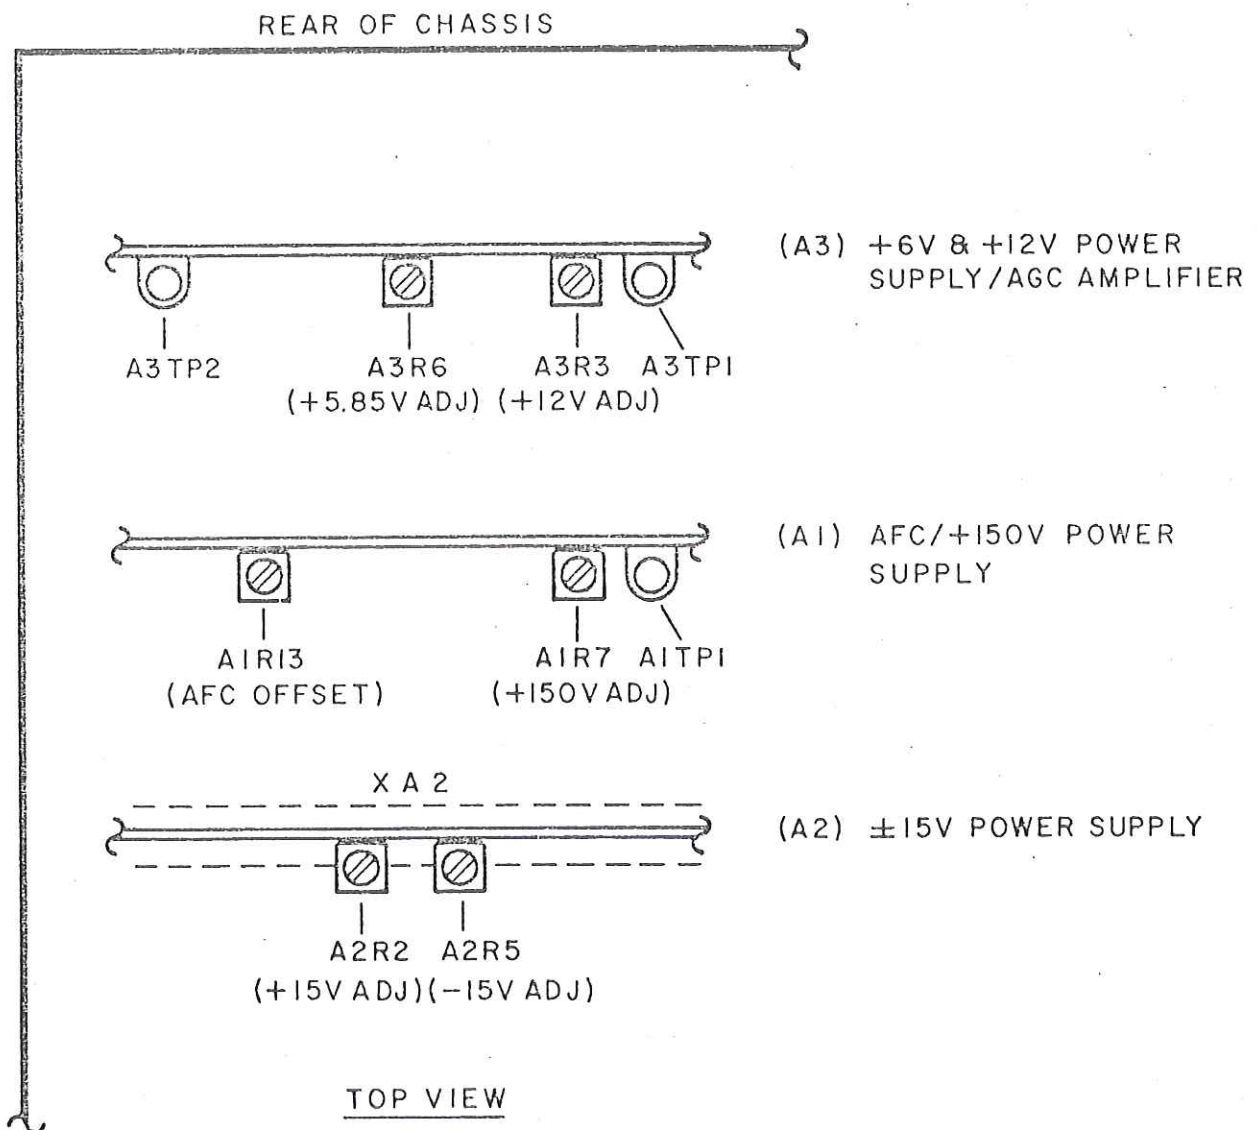

Figure 4-1. A1 - A3 Subassemblies, Test Point and Adjustment Locations
4.4.4 Power Supply Adjustment. - Adjustment procedures for the power supply voltages in the MTF-100A and MTF-102A Microwave Tuning Frames are presented below. Figure 4-1 shows the location of power supply adjustments and testpoints.
- (1) Set the front panel FINE TUNING potentiometer so that the digital voltmeter indicates +11.2 V dc at XA1 pin 17. Set the ON/AFC switch to the ON position.
- (2) Connect the power supply to AFC IN jack J5 on the MTF-100A or MTF-102A. Monitor the supply output with the digital voltmeter and set the power supply for +1.00 V dc.
- (3) Measure the dc voltage at XA1 pin 20. It should be between zero and +2 V dc (with circuit board jumpers connecting E1 to E3).
- (4) Set the power supply to -1.00 V dc.
- (5) Measure the dc voltage at XA1 pin 20. It should be +14.0 V dc \pm 2.0 V dc (with circuit board jumpers connecting E1 to E3).
- (6) For A1 subassemblies with circuit board jumpers connecting E3 to E2, reverse the readings obtained in steps 3 and 5.
- (7) If the correct readings above were not obtained, proceed as follows: Assure that the FINE TUNING potentiometer is set midrange and the AFC switch is ON. Disconnect the power supply input to AFC IN jack J5 and apply a ground to jumper terminal E3 of the A1 subassembly. Measure the voltage at pin 6 of A1U2 with the DVM. A reading of 0.0 volts should be obtained. If not, adjust A1R13 (shown in Figure 4-1) to obtain this reading. Remove the ground from jumper terminal A1E3 and repeat checks 2, 3, 4 and 5 above.